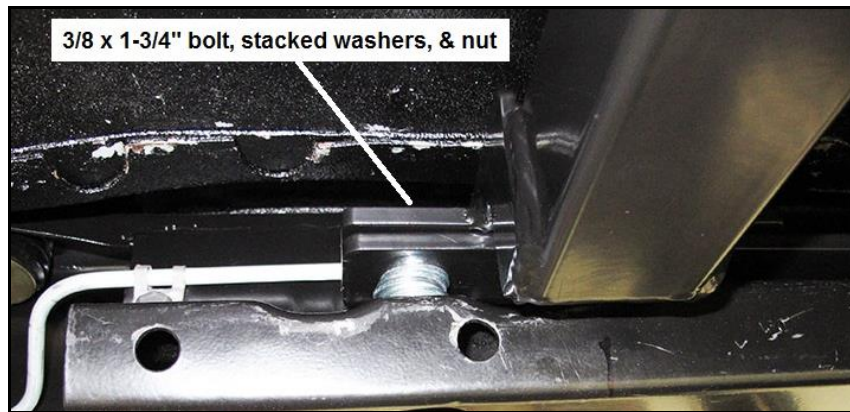

Figure 1 – 1983-87 2004R chassis cars only
4. **1983-88 2004R chassis cars-** Position the frame angle bracket under the left mounting foot of the crossmember and attach them both to the left side frame perch using the supplied 3/8 bolts, washers and flanged nuts as shown in figures 1 and 2. Once all brackets and fasteners have been configured and aligned as directed in **Figure 1**, tighten all the nuts and bolts across the entire crossmember assembly.
- 4A. Attach the crossmember and angle bracket to left frame perch using the supplied 3/8 x 1-3/4" bolt and one flanged nut in the rear holes of both components (**Figure 1**). During installation of the bolt through the components, place the supplied 3/8 washers between the crossmember and frame perch, as needed, to level the angle bracket with the bottom of the vehicle floor. This leveling operation is needed to account for the broad production tolerances and road/collision damage that is common with the frames of these vehicles; some vehicles will need more washers than others to achieve the same result. Notice that the rear-most hole in the vehicle frame perch is not used for attaching the crossmember.